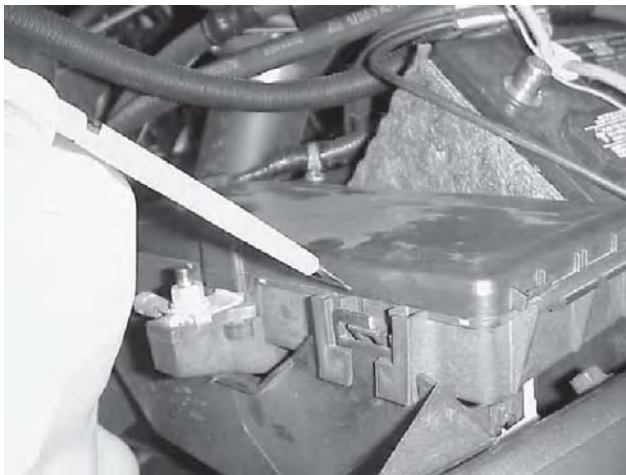

Fig. 5b
- b. Locate the Pink w/Gray Stripe wire in the black connector, pin location (MY2005 pin 13). This should be 12 volt key switched power. Check this pin with a volt/ohm meter or test light with a hard point test lead, back probe tool or paper clip. (see figure 5B)
- b. Release the mounting tabs located on each side of the TIPM to release the whole assembly allowing it to be lifted/tilted up exposing the wire harness's (see figures 5b and 5c)